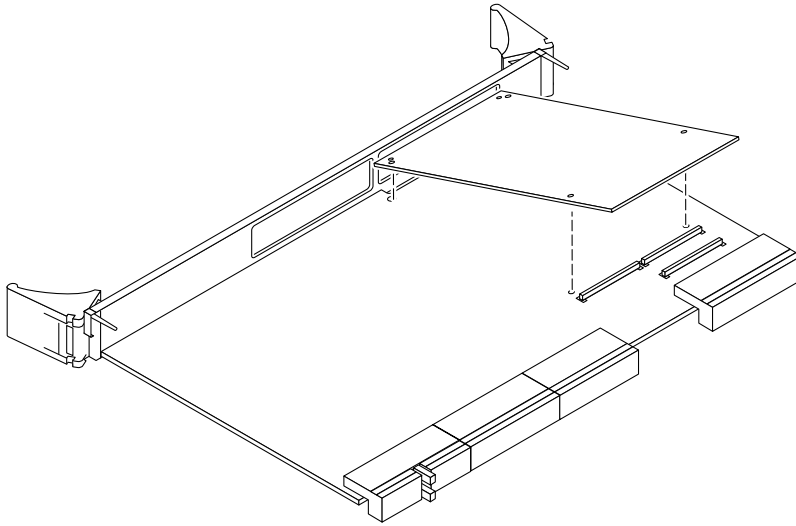

FIGURE 2-5 Inserting the PMC Into the PMC Slot
4. Press the top edge of the SO-DIMM toward the board until the retainer clips click into place (see FIGURE 2-5).
6. Insert the PMC at an angle into the appropriate PMC slot (FIGURE 2-5). Make sure that the PMC's connector goes through the board's PMC slot.